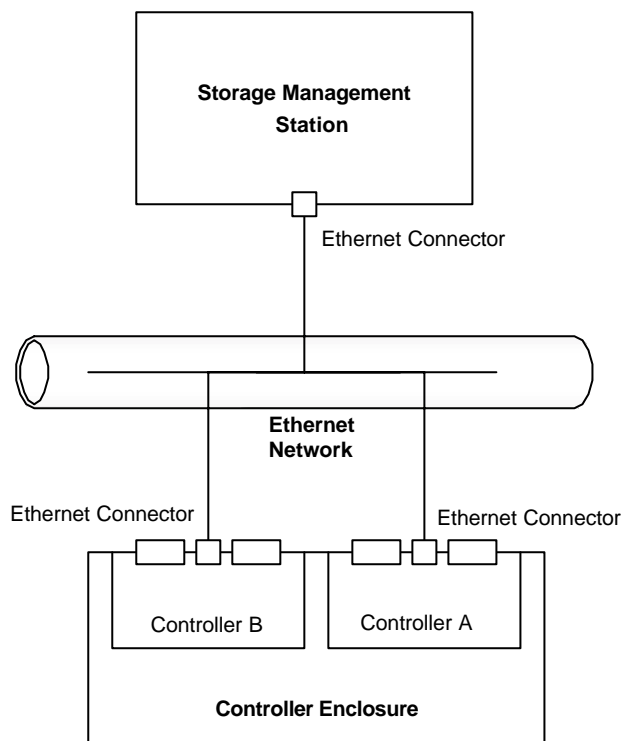

Figure 5-7 Connecting Ethernet Cables
1. To cable the system for direct management via Ethernet, connect a pair of Ethernet interface cables from the storage management station to the Ethernet connectors for controller A (left) and controller B (right) on the rear of the controller enclosure (see Figure 5-7).